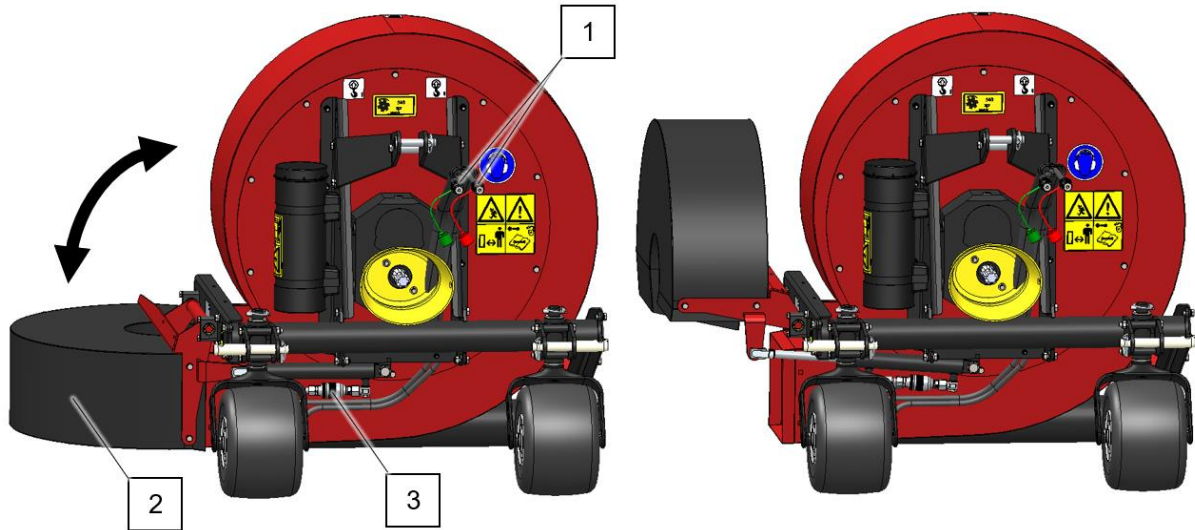

Fig. 8
By using the hydraulic connection ((1) Fig. 8), the position of the reverse spout (2) can be defined. As a result, air is blown out to the left, right or both sides of the machine. By using the restrictor valve (3), the speed of the hydraulic control can be regulated.